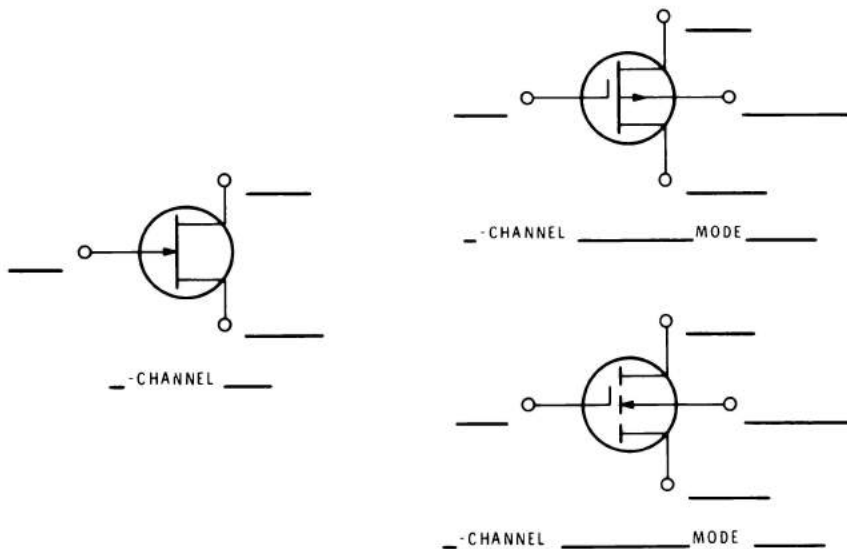

Figure 3-37
22. Identify the type of FET and the terminals by filling in the blanks in Figure 3-37.